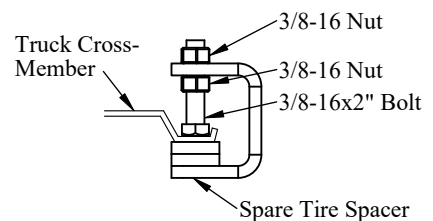

Figure 6: Spare tire spacer.
6. **Install** the spare tire spacers onto the truck cross member in a location that the spare tire will tighten up to it (Figure 6). Do not tighten at this time.